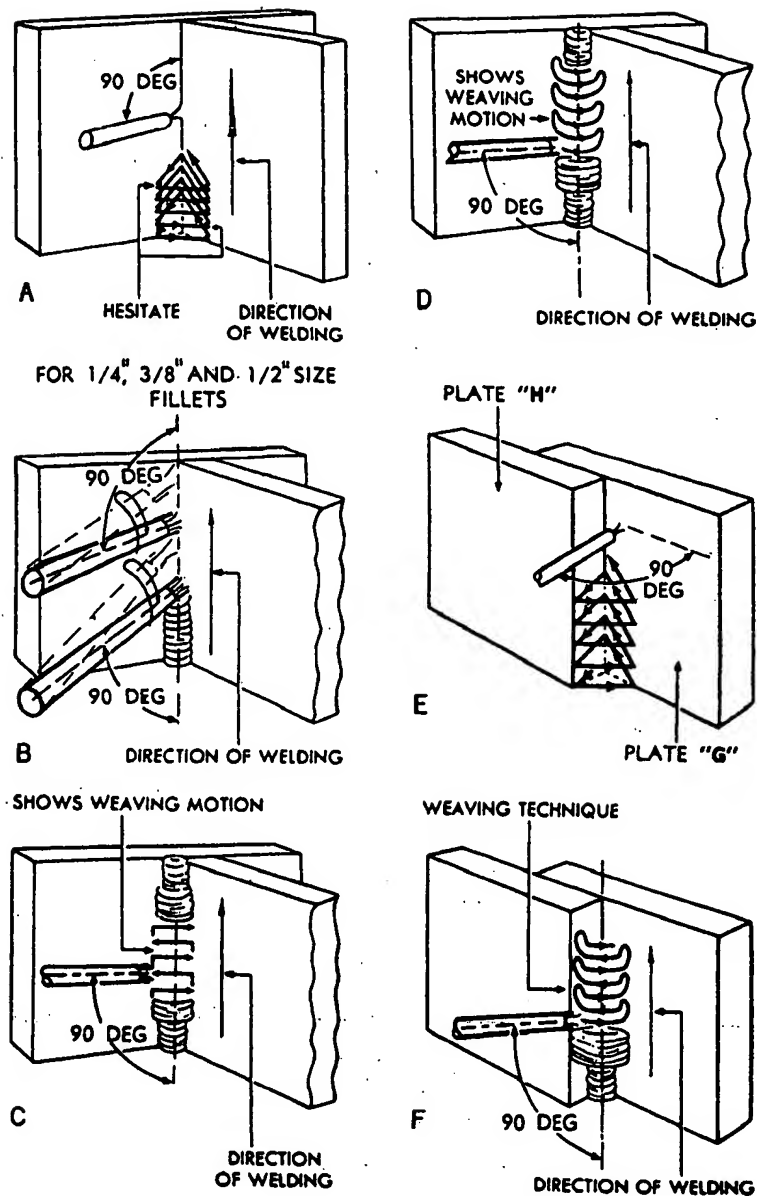

Figure 7-37.—Fillet welds in the vertical position.
Move the electrode in a triangular weaving motion, as shown in figure 7-37, view A. A slight pause in the weave, at the points indicated, improves the sidewall penetration and provides good fusion at the root of the joint.
When the weld metal overheats, you should quickly shift the electrode away from the crater without breaking the arc, as shown in figure 7-37, view B. This permits the molten metal to solidify without running downward. Return the electrode immediately to the crater of the weld in order to maintain the desired size of the weld.
When more than one pass is necessary to make a tee weld, you may use either of the weaving motions shown in figure 7-37, views C and D. A slight pause at the end of the weave will ensure fusion without undercutting the edges of the plates.
**LAP JOINTS.**— To make welds on lap joints in the vertical position, you should move the electrode in a triangular weaving motion, as shown in figure 7-37, view E. Use the same procedure, as outlined above for the tee joint, except direct the electrode more toward the vertical plate marked "G." Hold the arc short, and pause
Lap joints on heavier plate may require more than one bead. If it does, clean the initial bead thoroughly and place all subsequent beads as shown in figure 7-37, view F. The precautions to ensure good fusion and uniform weld deposits that was previously outlined for tee joints also apply to lap joints.